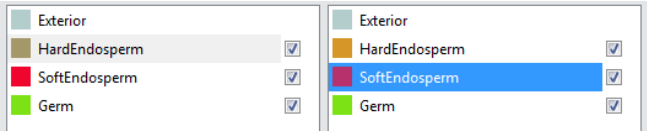

Figure 20.26: Contact Mode
- *Contact*: The contact mode allows selecting interfaces between two materials. Select the two materials from the materials list (Figure 20.26).